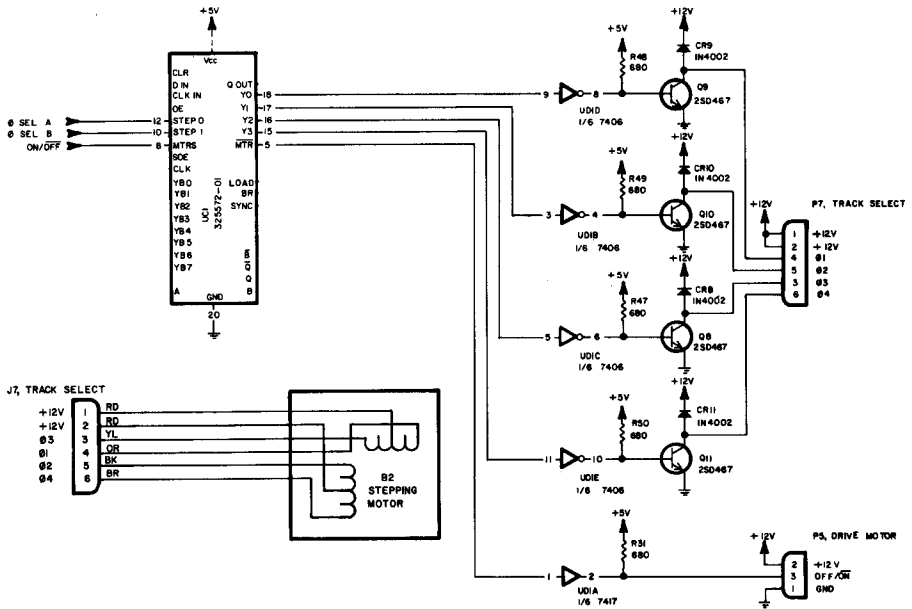

Fig. 7-33. Schematic of track select circuit, Model 1541.
7.2.5 Track Select Electrical Theory (Refer to Figs. 7-33 and 7-34)